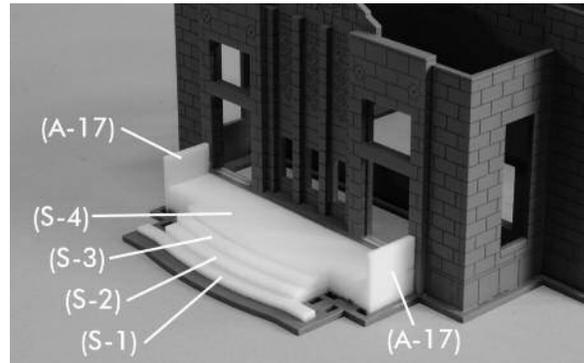

Figure 6
Glue the steps (S-1) thru (S-4) in ascending order. They should all be flush against the building and on the sides. Glue parts (A-17) into the slots on the Base (A) and on either side of the steps to help keep the steps flush. See Figure 6